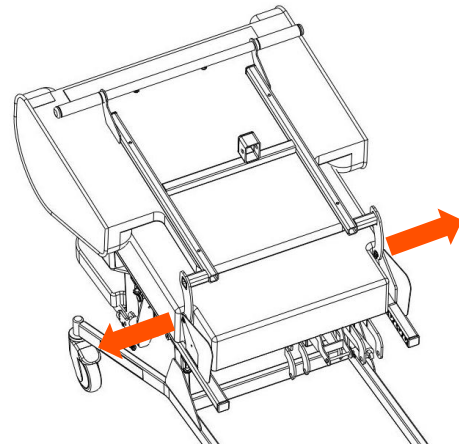

FIGURE 12
7. Remove the pins, washers, and R clips from both hinges (Figure 12) and lift off the backrest. Retain the pins, washers, and R clips to use with the postural backrest.